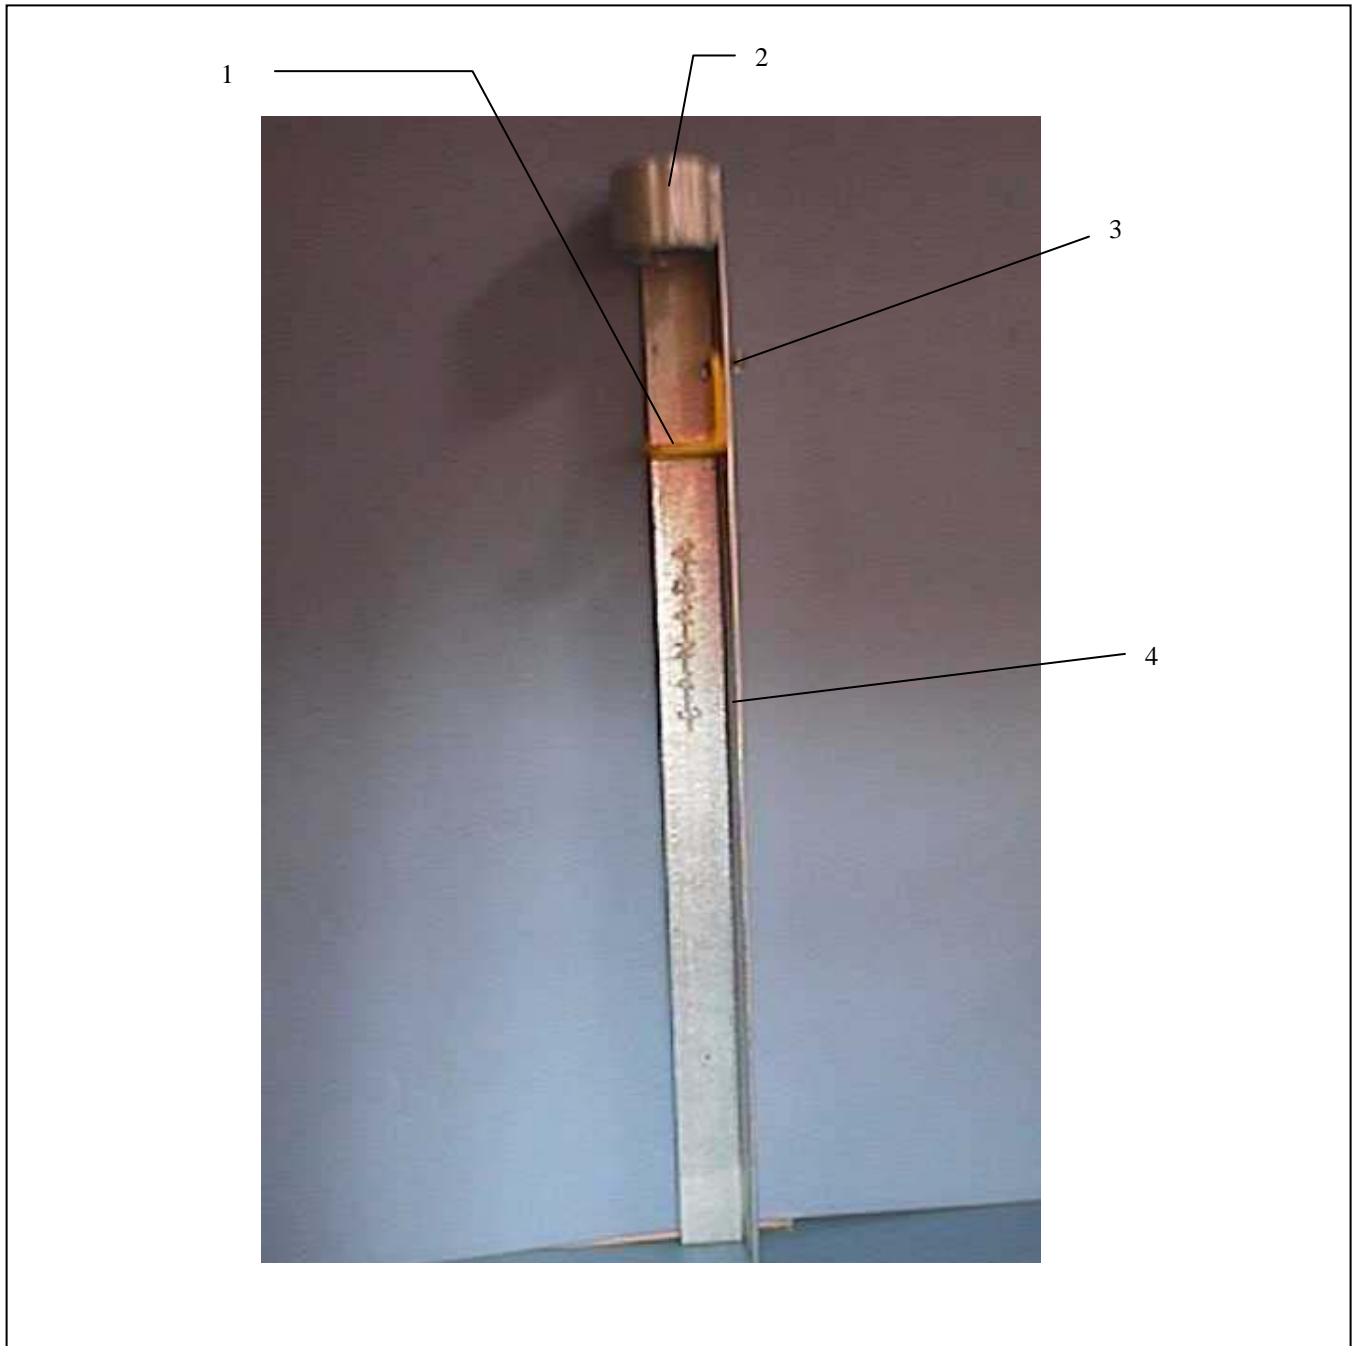

Figure 5. Stake Assembly
1. See Figure 5. Attach the cable connector support (1) to the stake assembly using mounting hardware (3).
1. See Figure 5. Install the stake in 6-inch- (152.4-mm-) diameter holes at a depth of 30 inches (762 mm) so that the mounting hub of the stake is level.